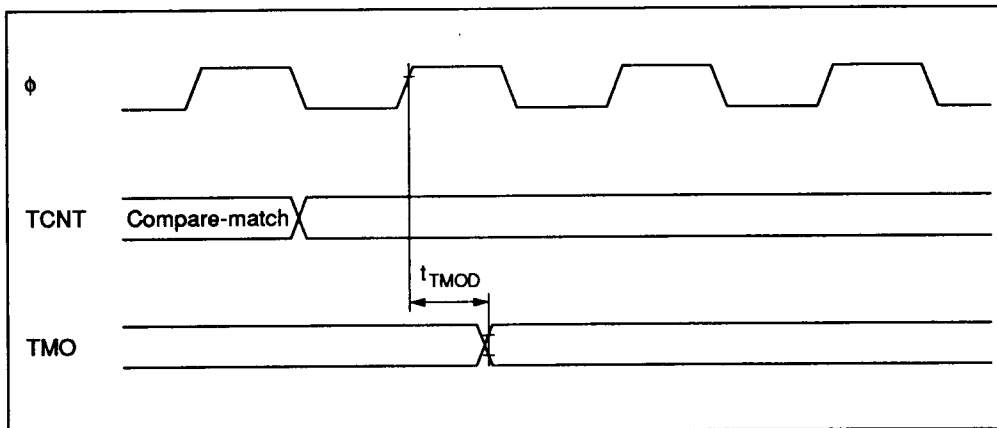

Figure 21-13 8-Bit Up/Down-Timer Output Timing
21.3.6 8-Bit Up/Down-Timer (TMR4, TMR5) Timing	Figures 21-13 and 21-14